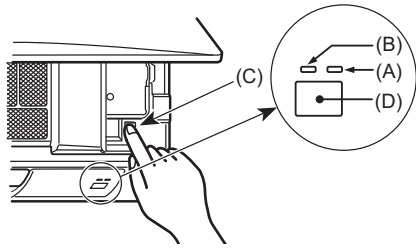

Fig. 4-1
[Fig. 4-1] (A) Defrost/Standby lamp (Orange)